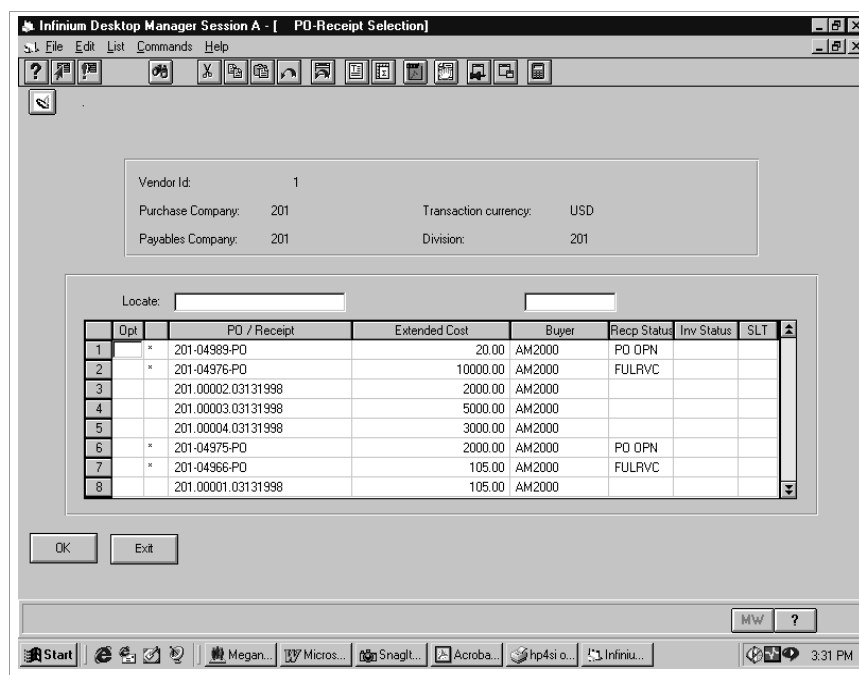

Figure 5-5: PO-Receipt Selection screen
This screen allows you to locate the purchasing system purchase orders you want to invoice and to enter the required invoice information. The information you type at this screen determines the data that the system displays at the PO-Receipt Selection screen illustrated in Figure 5-5.
Type the purchase order number. If you type only the purchase order number on this screen, the system checks the vendor on the purchase order and selects all purchase orders for that vendor. The PO-Receipt Selection screen illustrated in Figure 5-5 displays the selection list beginning with the purchase order number that you type in this field.
- 7 Press Enter. The system displays the screen shown in Figure 5-5.